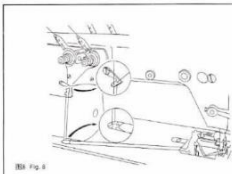
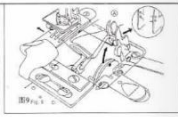

图8 Fig.8
图9 Fig.9
九. 底线的穿法 (图8, 图9) The threading of bobbin thread (Fig.8,9)
1. 按 (图8) 所示穿过头夹线器单面导线板, 如用捻度大的线或缝纫时需用捻度大的时候应穿二个孔。
2. 按 (图9) 中的扳簧朝操作者侧拉, A就向上抬起。
To make bobbin thread going through the eye of the needle in the order as shown in (Fig.8 and 9)
2) Pull the spring toward the operator, as shown in Fig.9 and part A will rise upwards.
3) When threading the looper, the thread shall be made go through the eye of the needle with a tweezer as shown in Fig.9 and 50mm of remaining thread be pulled out.